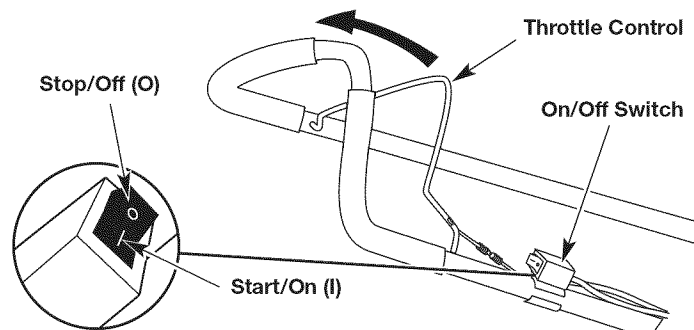

Fig. 4
NOTE: There is no need to turn the unit on. The On/Off switch is in the ON (I) position at all times (Fig. 4).
6. **DO NOT** squeeze the throttle control (Fig. 4). Pull the starter rope with a controlled and steady motion until the unit starts.
2. Press and hold the On/Off switch in the OFF (O) position until the engine comes to a complete stop (Fig. 4).